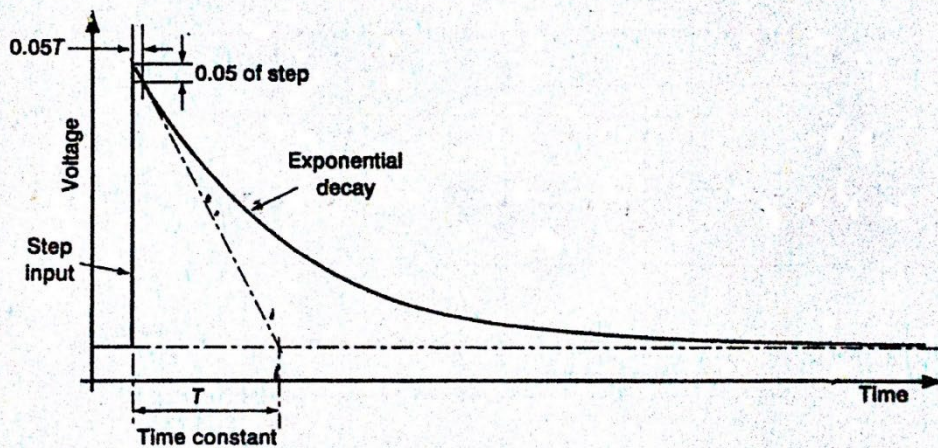

Figure 4.5 Exponential decay of the output of a charge amplifier
- b) Figure 4.5 shows the exponential decay of the output voltage of the charge amplifier after the step.